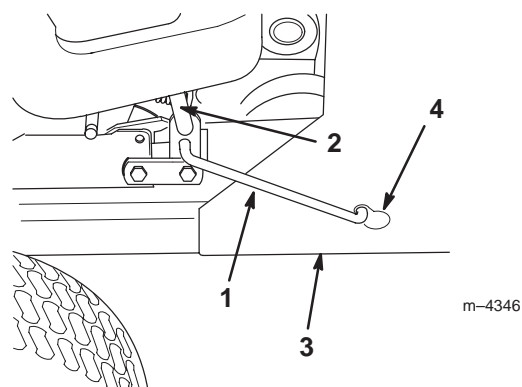

Figure 20
- 12.** On the right side of the tractor, pull forward on the spring tension lever and connect the spring tension link to the keyhole slot in the snowthrower frame (Fig. 20).